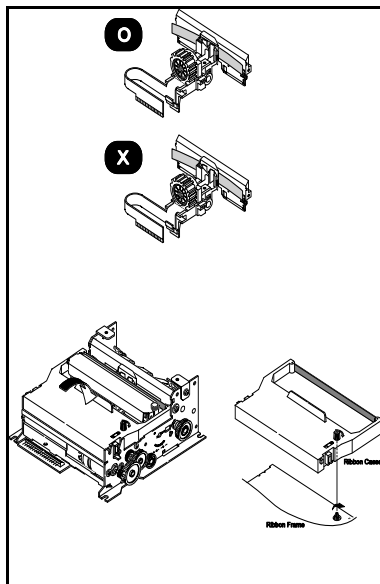

Figure 3-6. Ribbon Cassette
1. Before inserting the ribbon cassette, turn the knob (see Figure 3-6) counterclockwise to prevent twisting the ribbon.
2. Insert the ribbon cassette as shown in Figure 3-6.